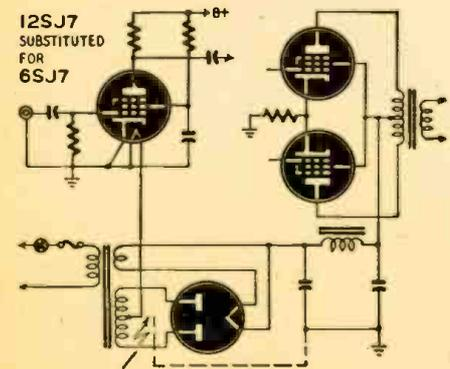

Fig. 3—A change of tubes stopped hum here.
out the 6SJ7 and substituted a 12SJ7 and then ran a d.c. filament by wiring it in series with the B-minus. The circuit appears in Fig. 3. The total drain was close to 150 ma, which just lit the 12SJ7 nicely. The 6L6's didn't seem to miss the lost 12 volts from their plate voltage, and the hum was way, way down. Later the owner rewired the amplifier with more attention to ground loops and cleared up the situation. You could argue that the trouble there was filament induction rather than ground loops, and you might be right. I do know, however, that it was cured by (1) d.c. filaments, (2) rewiring the ground.